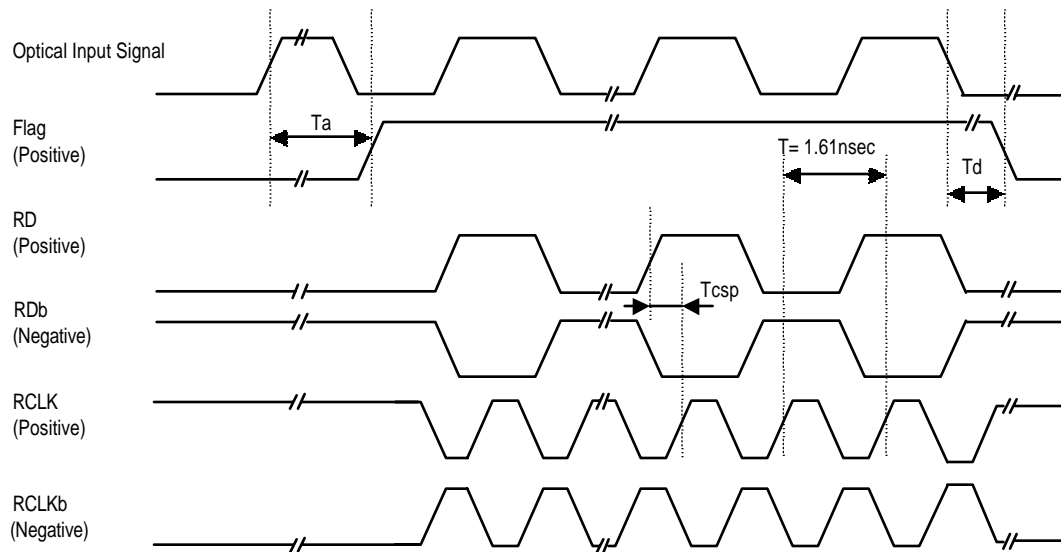

Figure 4. Timing Chart
10. Phase difference between cross point of RD and rising edge of RCLK. (Please refer to Figure 4)
6. Refer to Figure 4